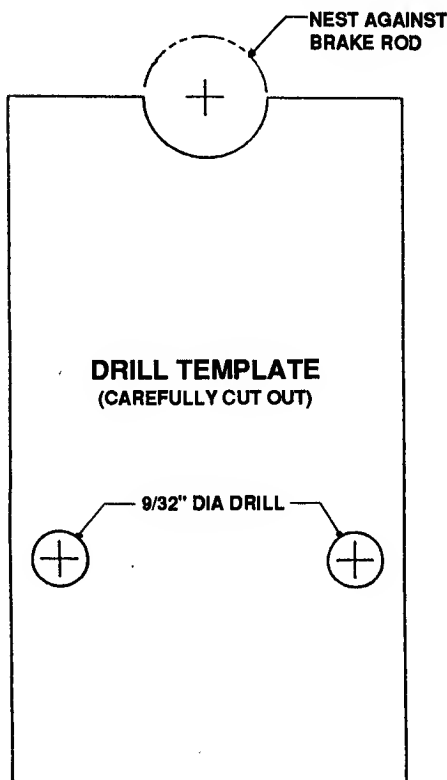

FIGURE 9.8
- (b) Using drill template provided (Shown Full-Size in Figure 9.8), drill hole for mounting the oil filter hose.